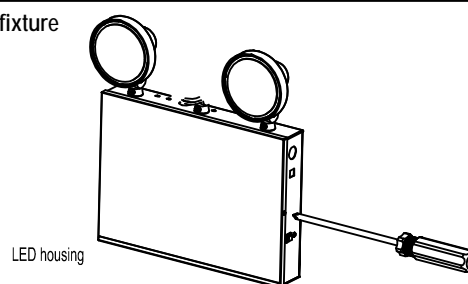

Fig 1
1. Remove front cover using screwdriver (see Fig 1).